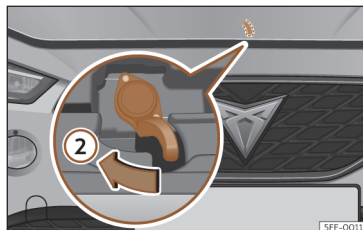

Fig. 209 Lever under the bonnet.
- To lift the bonnet, press towards the left on the lever located under the bonnet, in the centre >>> **Fig. 209** ②. The fastening hooks are unlocked.